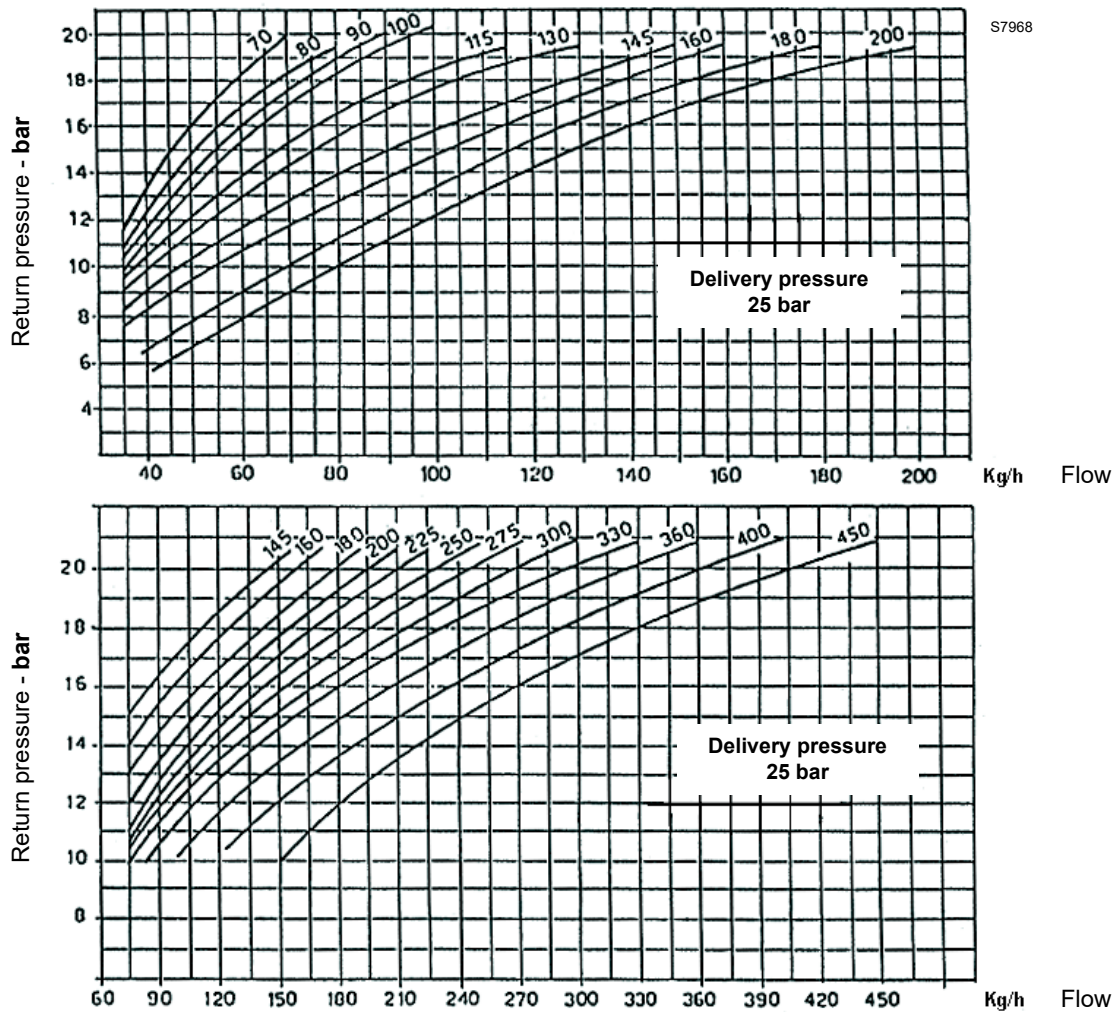

Fig. 14
- When the adjustment has been made, manually check that there is no Knocking between 20° and 130° and that maximum and minimum pressures match pre-selected values as indicated on the graph (Fig. 14 on page 19).